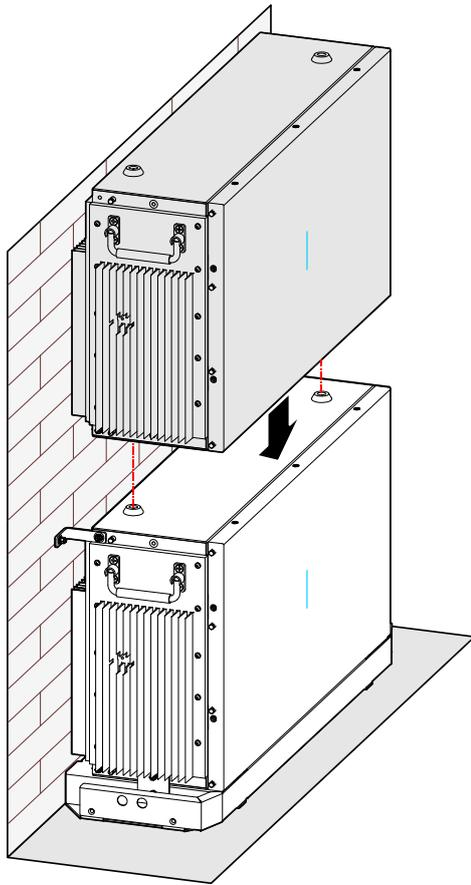

Figure3-22 Place the battery pack
3. Place the battery pack onto the lower battery pack, as shown in Figure3-22.